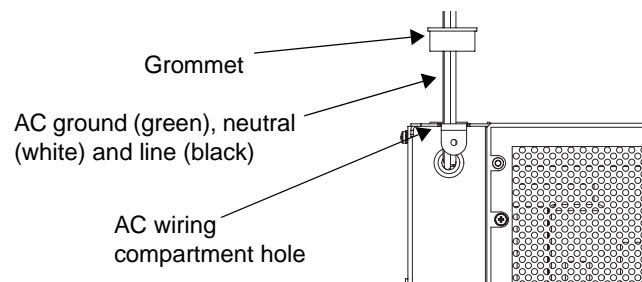

Figure 10 XADC AC Connections
4. Make the DC ground connections to the ground lug on the right hand side or the top of the XADC, see Figure 10.